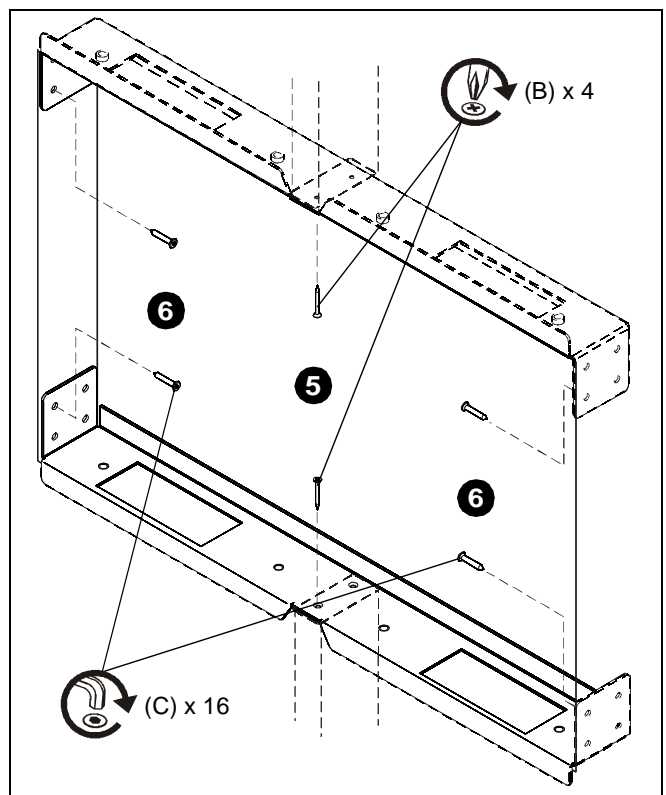

Figure 6
5. Secure upper and lower brackets to center studs using four Phillips flat head wood screws (B) at center studs. (See Figure 6)
6. Secure upper and lower brackets to side studs using sixteen connector screws (C) and Allen head bit (D) provided. (See Figure 6)